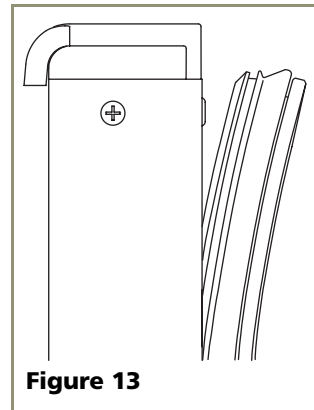

Figure 13
2. Pull door gasket out of groove (top edge of door only). Start in the middle and pull outward, moving toward the edge (see **Figure 13**). This may take some force. Do not remove the three screws behind gasket.